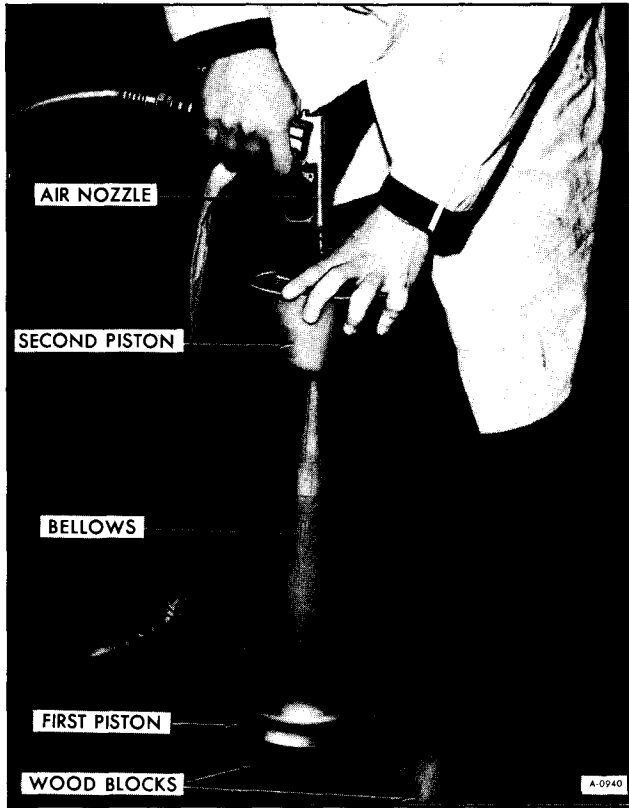

Figure 58—Installing Second Piston on Air Bellows
3. Place second piston over top of bellows and apply shop air again as shown in Figure 58. Push down on bellows and release air pressure. Bellows will fold over piston. Completed bellows assembly should appear as shown in Figure 39.